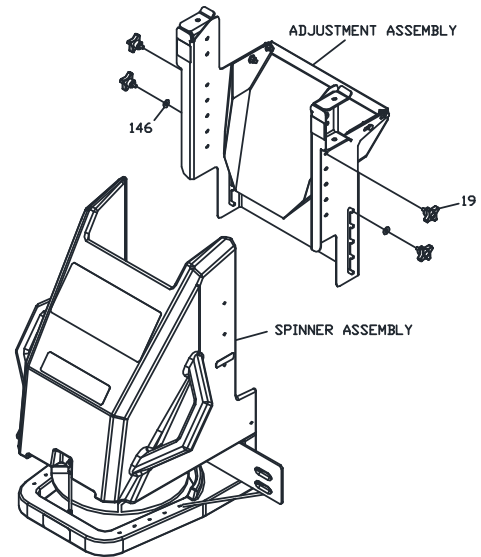

Figure 12. Spinner Assembly
1. Attach Adjustment Assembly to Spinner Assembly in position shown using 5/16" Flat Washers (146) and Thumb Screws (19). See Figure 12.